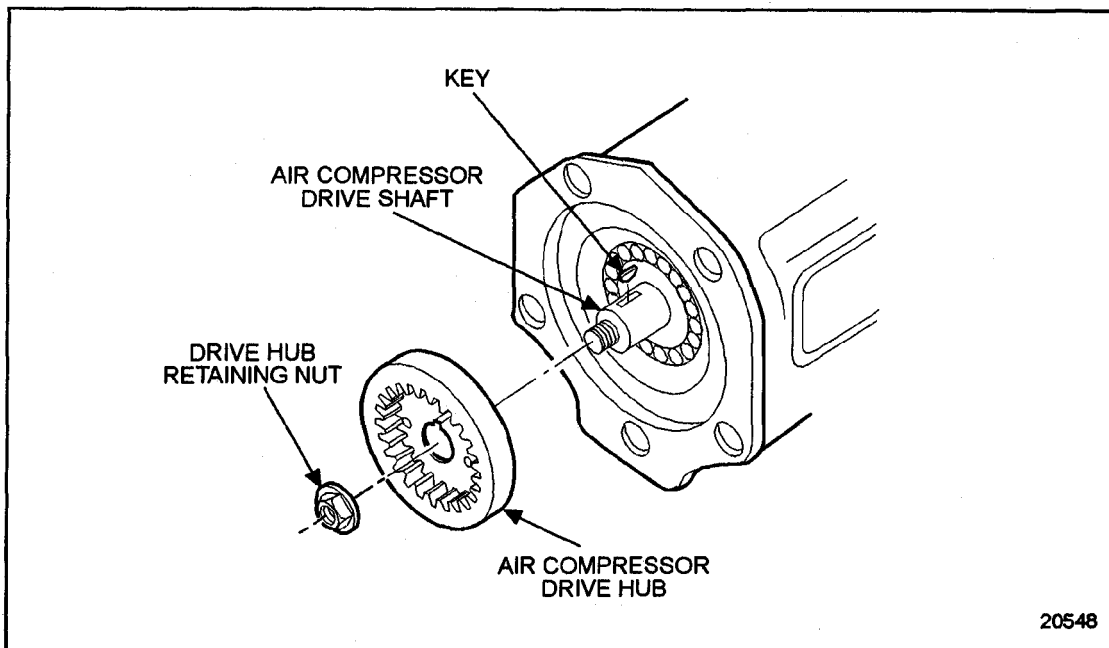

Figure 10-12 Air Compressor Drive Hub Assembly
1. Install the hub to the shaft as far as it will go by hand. Do not cock or jam the hub. See Figure 10-12.